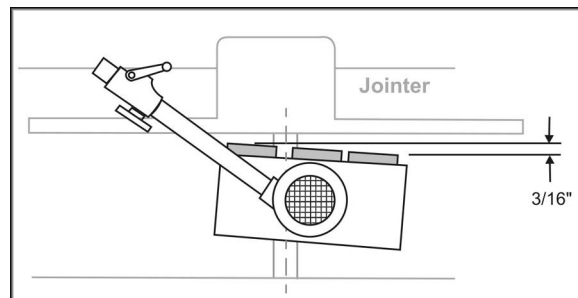

Figure 20
1. Mount the 3-roller stock feeder on a jointer so that the cutterhead is between the outfeed roller and the center roller (Figure 20). The 4-roller stock feeder can be positioned so that the cutterhead is between the center rollers.
3. Rotate the Stock Feeder so that the direction of feed is angled slightly toward the fence by approximately 3/16" (5mm); that is, the outfeed roller should be slightly closer to the fence than the infeed roller. See Figures 20 and 21.